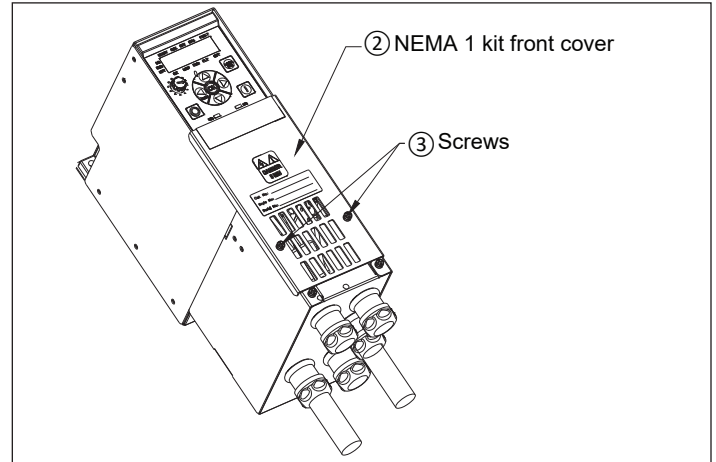

Figure 10. Reinstalling the front cover.
Mount the NEMA 1 kit front cover ② back to the conduit box with screws ③ (see Figure 10)